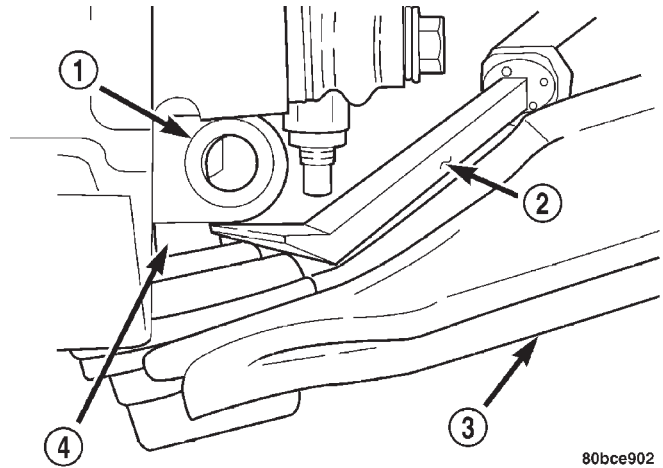

Fig. 12 Separate Ball Joint from Knuckle
(15) Separate the ball joint stud from the steering knuckle by prying down on lower control arm and up against the ball joint boss on the steering knuckle (Fig. 12).
(6) Separate the ball joint stud from the steering knuckle by prying down on lower control arm and up against the ball joint boss on the steering knuckle (Fig. 12).